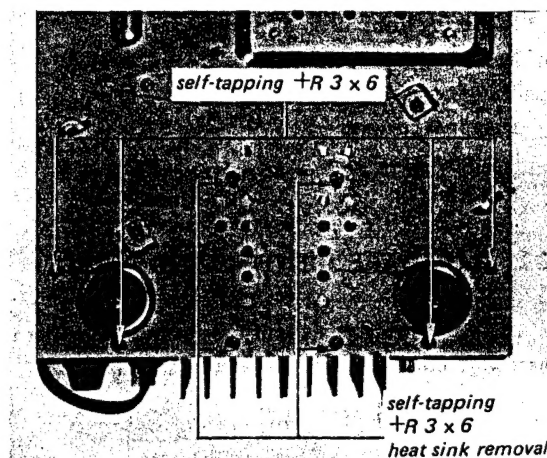

Fig. 2-4 Power transistor replacement (1)
2. Remove the four self-tapping screws (+R 3 X 6) securing the rear panel to the chassis from the bottom. See Fig. 2-4. Carefully tilt it backward and down.
3. Remove the four self-tapping screws (+R 3 X 6) that secure the heat sink to the chassis from the bottom. See Fig. 2-4.